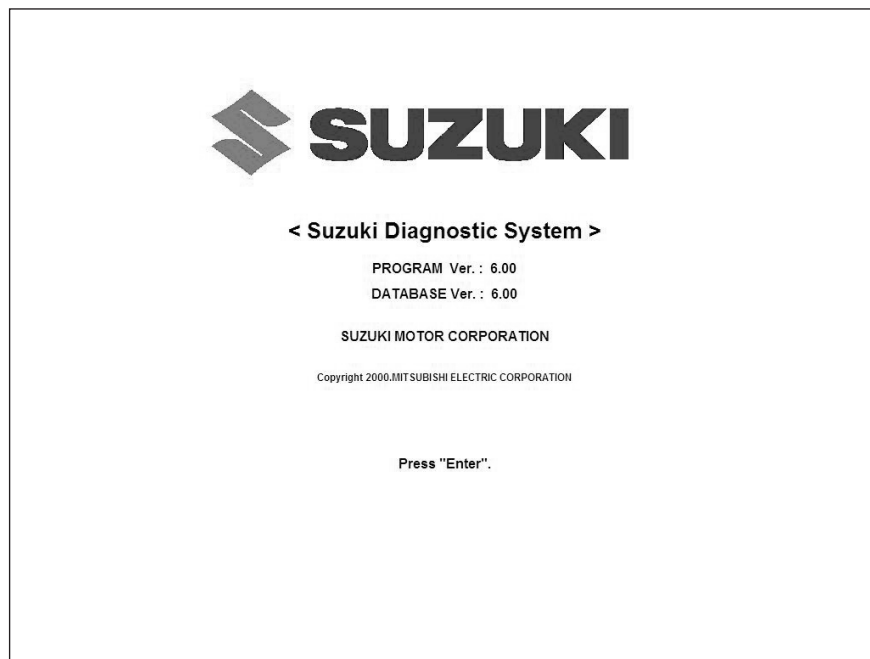

Fig.31
3. The SDS program is started. (Fig.31)